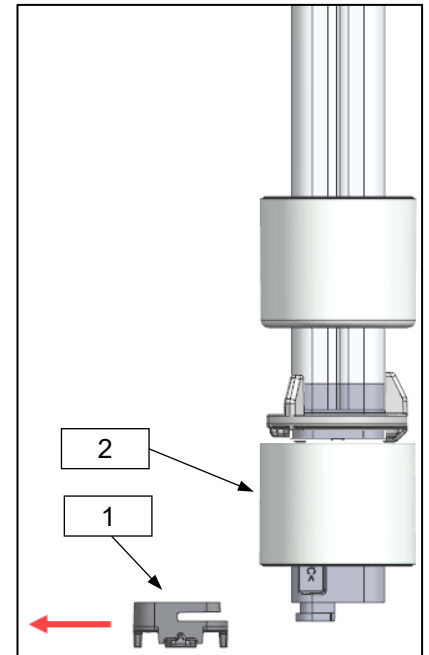

Figure 8
By turning the float (Figure 8, item 2) through 180°, the switching function normally open to normally closed or normally closed to normally open can be subsequently inverted. Only the switching function normally open or normally closed can be inverted.
- *Only the float at the empty signal switching point (S1) can be turned. This function is not possible with the float (Figure 8, item 2) of the pre-empty switching point (S2).*
The respective switching function selected can be identified by the colour marking of the float (Figure 8, item 2):